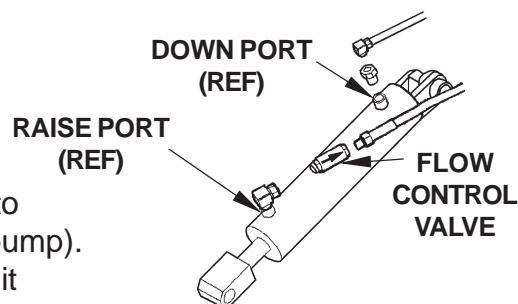

FIG. 12
7. Check if Flow Control Valve (**FIG. 12**) is pointing to the direction of restricted fluid flow (back toward pump). If required, remove Flow Control Valve and install it correctly (**FIG. 12**).